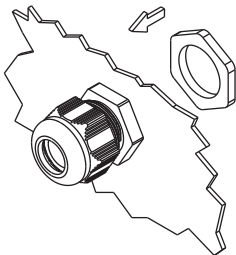

Figure 2
2. Tighten locknut, when applicable (Figure 2).